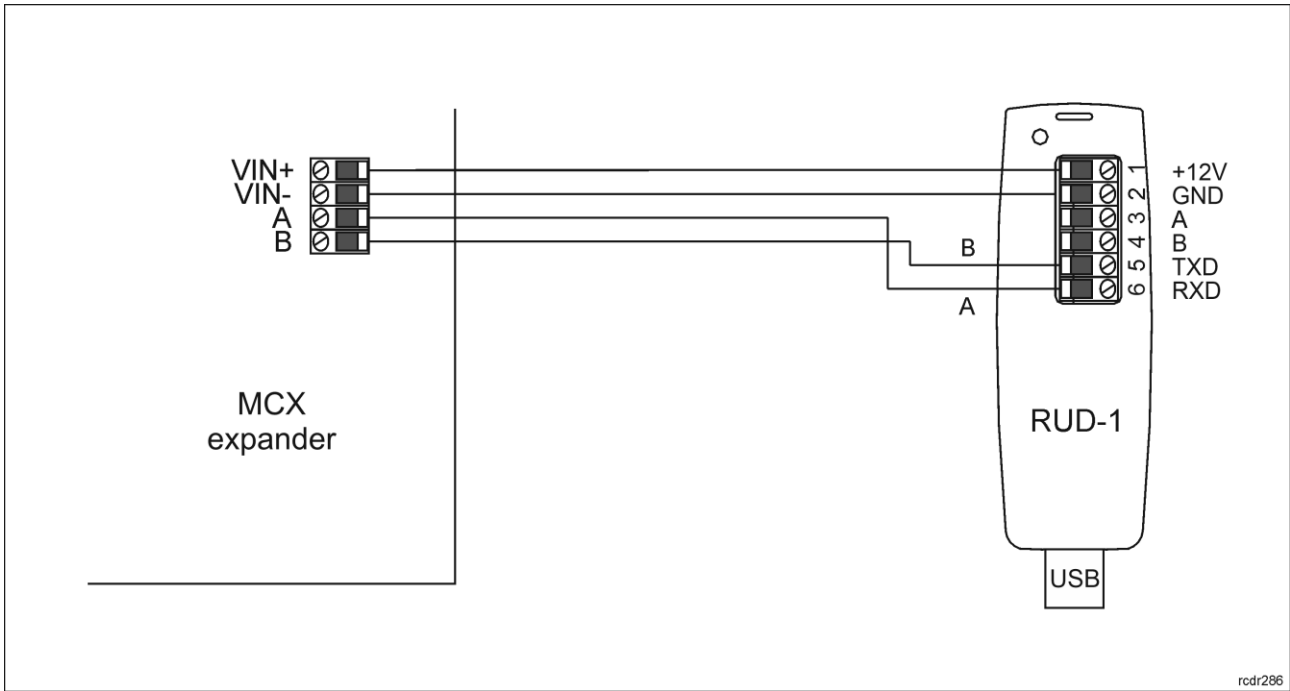

Fig. 8 Connection to RUD-1 interface (firmware update)
8. Connect the device to RUD-1 interface (fig. 8) and connect the RUD-1 to computer's USB port.